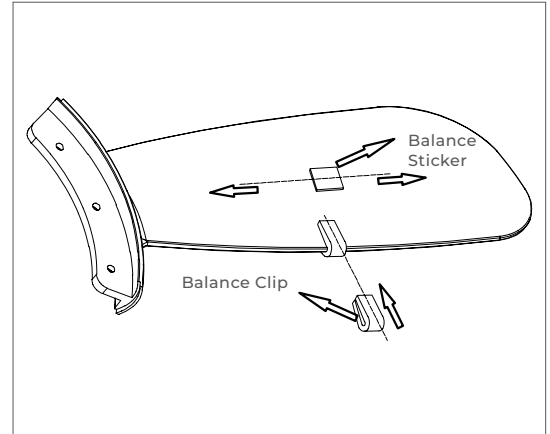

FIGURE 2
**A)** Take out the balancing bag in the package box and use the balancing clip to select and clip to one edge of the fan blades (Figure 2).
**C)** Place the balancing clip on the weakest fan blade, move inward or outward on the blade edge, and open the ceiling fan to find the best position for the balancing clip to control the steady wobble (as shown in FIG. 2 on the right).
**D)** Take the balance sticker, tear off the double sided adhesive tap of the balance sticker, and stick the balance sticker to the central position of the blade in the position of the balance clamp (as shown in Figure 2 on the right).